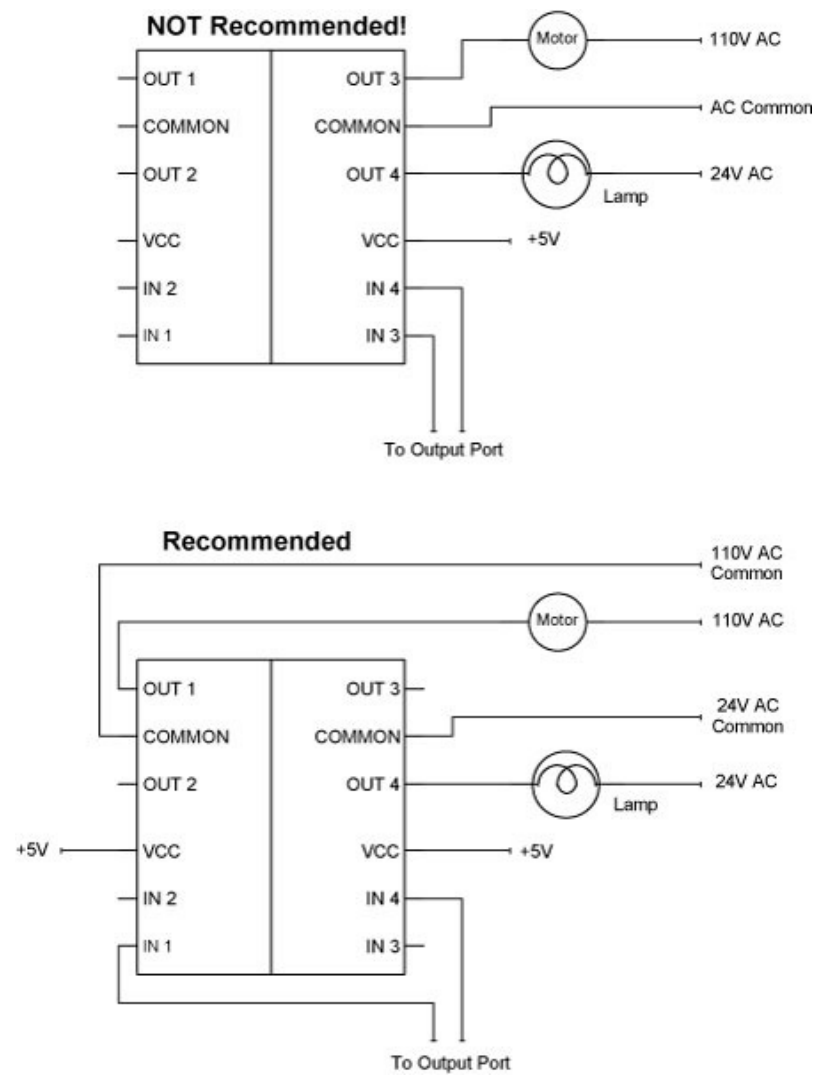

Figure 2-13
**CAUTION:** A quad-output module in the OAC and ODC and compatible families of AC- and DC-output modules isolates pairs of outputs from one another, but the two circuits within each pair share a common connection. In applications that control devices powered by the same source, a shared common connection works well. But an application may require controlling 120V AC and 24V AC circuits (**Figure 2-13**). Although both circuits require AC power, most likely that power doesn't come from the same source. When in doubt, DO NOT mix voltages within a pair of outputs. Always rely on a manufacturer's data sheets for complete application information on specific modules.